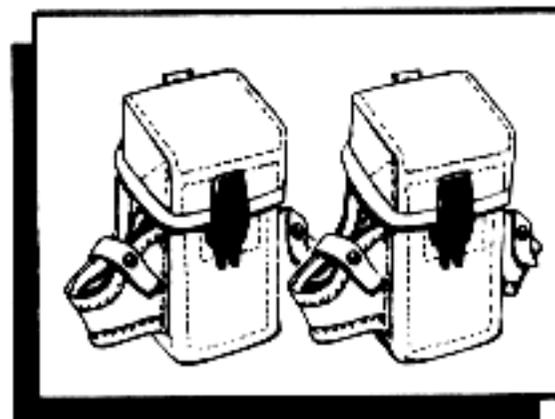

Figure 4-4. Small-arms ammunition case.
**Small-Arms Ammunition Case.** The small-arms ammunition case (figure 4-4) holds three 30-round magazines (M16 rifle). The case has fragmentation grenade pockets on each side and a plastic fastener that can be opened and closed with one hand.